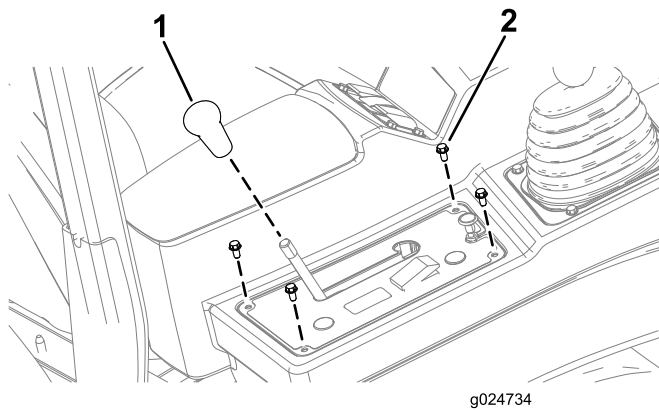

Figure 45
1. Remove the knob from the differential-lock rod (Figure 45).
2. Remove the 4 hex-head screws (1/4 x 1/2 inch) as shown in Figure 45.
9. Install the knob onto the differential-lock rod (Figure 45).